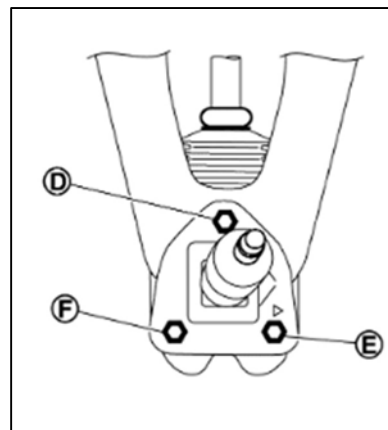

Figure 120
- Torque the RH rear bolt (E) shown in Figure 120 to 9.6 N•m(0.98kg-m, **85 in-lb**)
- Torque bolts (D) and (F) to 9.6 N•m (0.98 kg-m, **85 in-lb**)